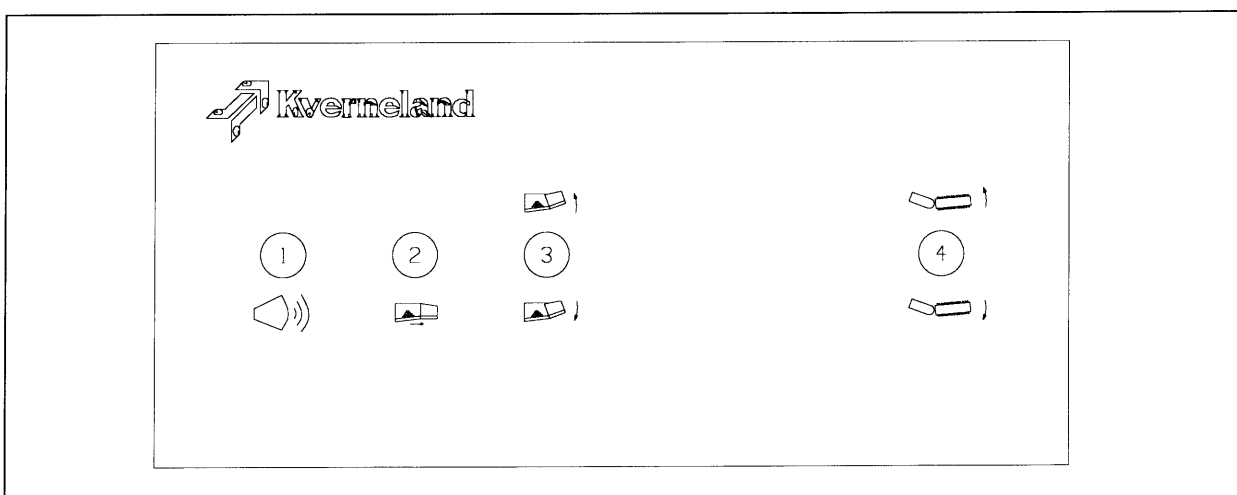

Fig. 24-2
- Control panel picking table (Fig. 24-2)
(Fig. 24-2)